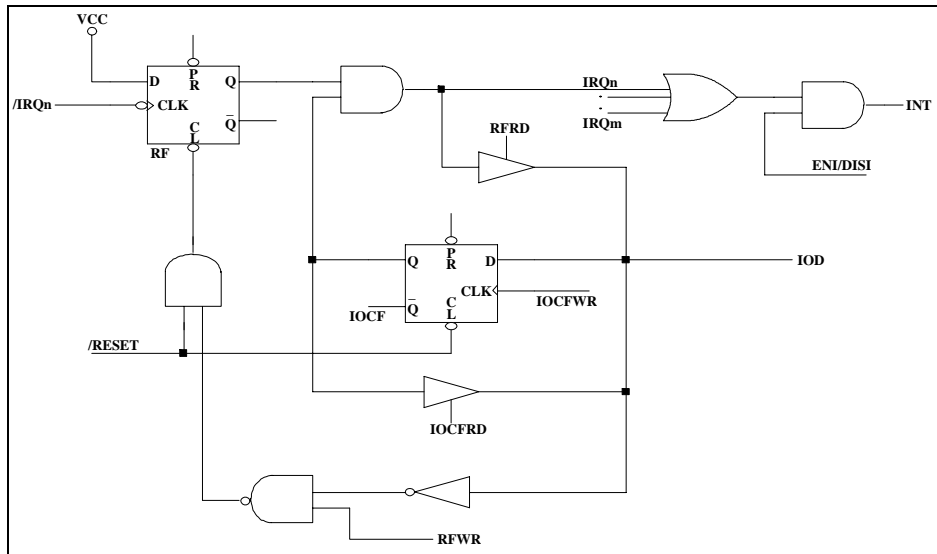

Fig. 5-10 Interrupt Input Circuit
The flag (except ICIF0 bit) in the Interrupt Status Register (RF) is set regardless of the status of its mask bit or the execution of ENI. Note that the outcome of RF will be the logic AND of RF and IOCF0 (refer to Fig. 5-10). The RETI instruction ends the interrupt routine and enables the global interrupt (the execution of ENI).